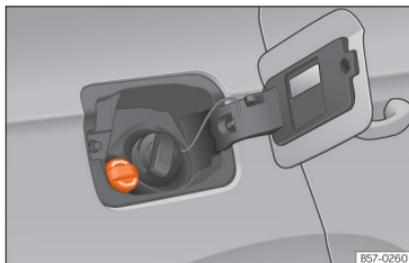

Fig. 265 AdBlue tank cap.
- Open the tank cover » **Fig. 265**.
»» Fig. 265.